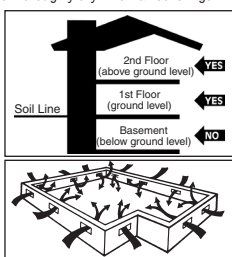

Figure 1 1
- Crawl spaces must be a minimum of 18" (46 cm) from the ground to the underside of the joists. A ground cover of 6-20 mil black polyethylene film is highly recommended as a vapor barrier with joints lapped 6" (15 cm) and sealed with moisture resistant tape. The crawl space should have perimeter venting equal to a minimum of 1.5% of the crawl space square footage. These vents should be properly located to foster cross ventilation (Figure 1). Where necessary, local regulations prevail.